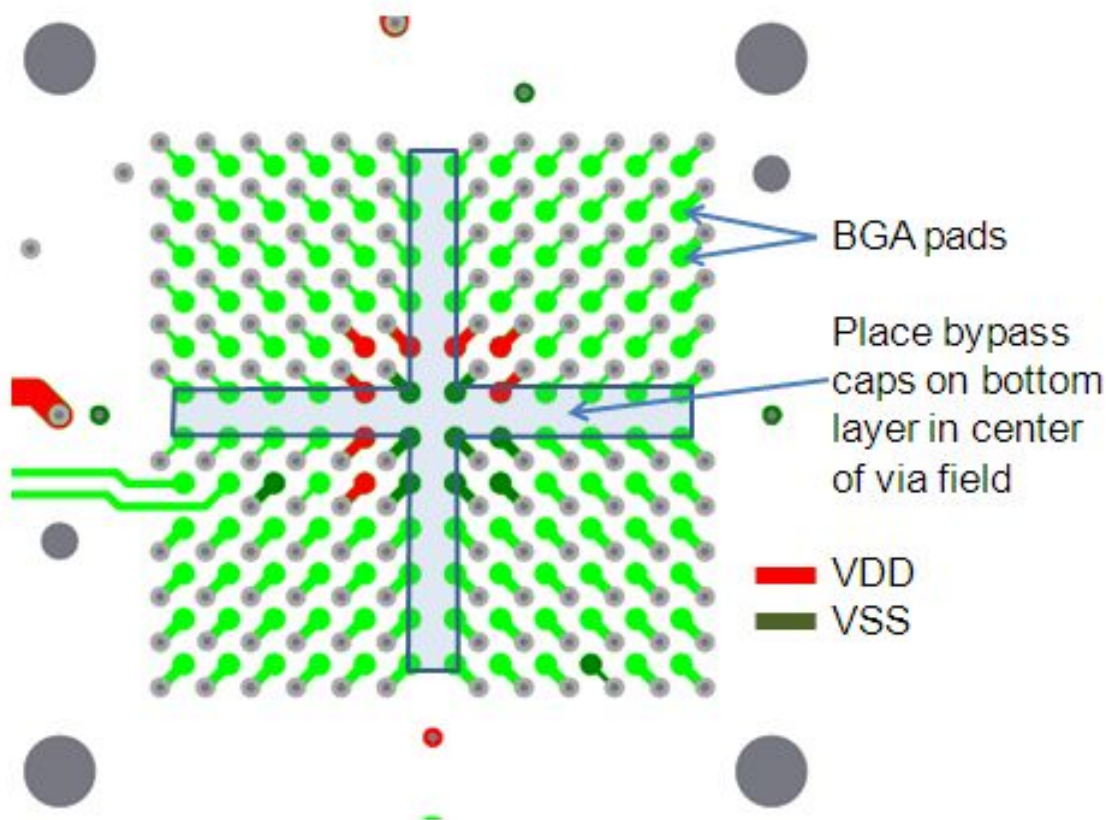

Figure 2-2. K60 TWR board top layer BGA pad arrangement
- Supply routing – With the Ball Grid Array (BGA) package, all of the VDD/VSS pairs are routed to other layers under the package. This allows easier attachment of the VDD and VSS pins to the power and ground planes within those layers. The bypass capacitors can be placed in the area below the MCU, with connections very close to the power pins. See Figure 2-2.